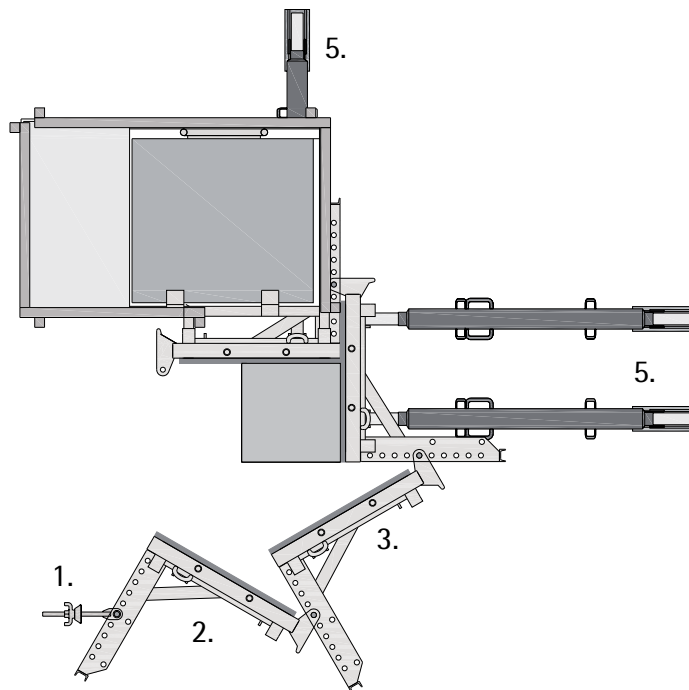

Fig. 29
2. Fold out the unit with the tensioning devices (Fig. 29).